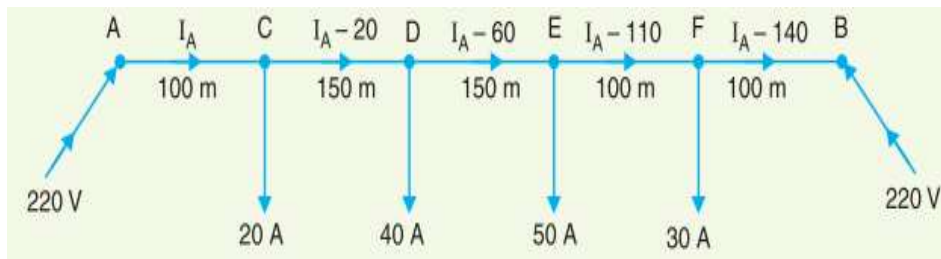

Fig.1
**Solution:** Step 1: Let  $I_A$  amperes be the current supplied from the feeding end A and draw the single line diagram of the distributor with its tapped currents as shown in Fig.1.